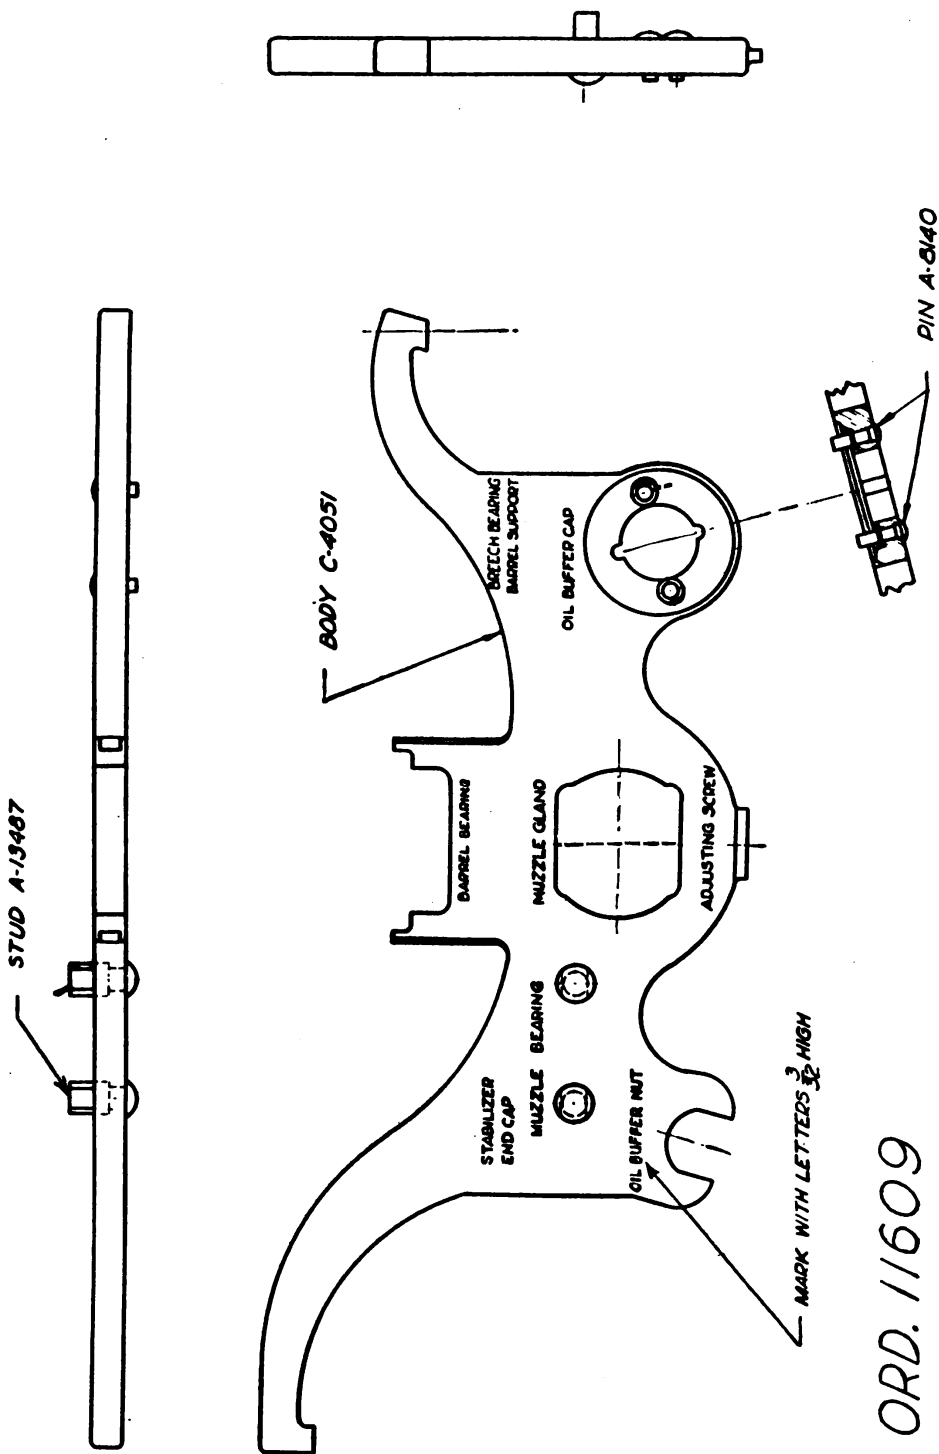

FIGURE 34.—Wrench, combination, M2.
(10) *Wrench, combination, M2 (fig. 34)*.—This is a special tool for disassembling, assembling, and making adjustments of the gun. Each opening and projection is marked to show its purpose.